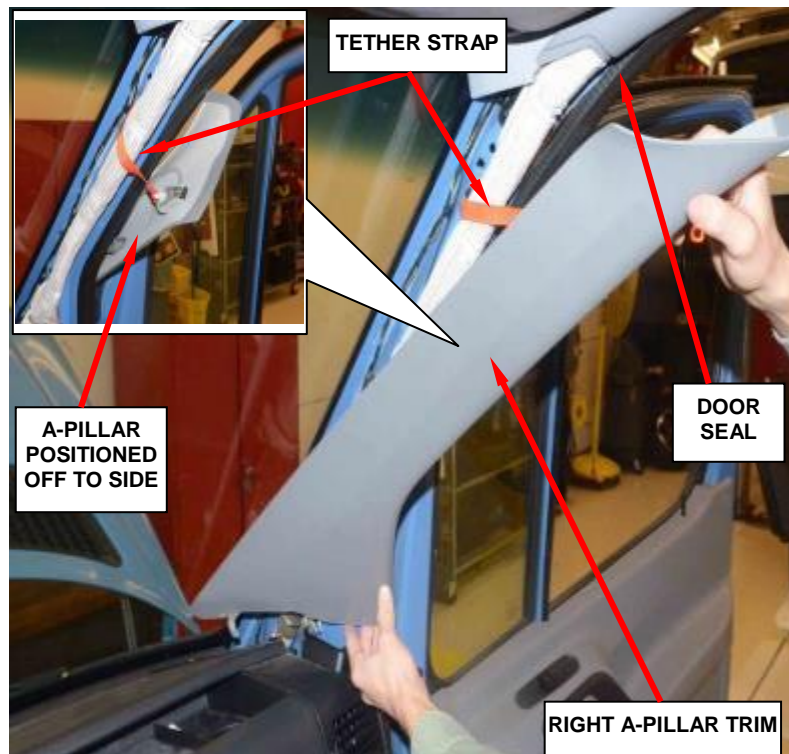

Figure 111 – Right A-Pillar Trim
8. Partially remove the right front door seal near the A-Pillar (Figure 111).
9. Remove the right A-Pillar trim and position off to the side (Figure 111).